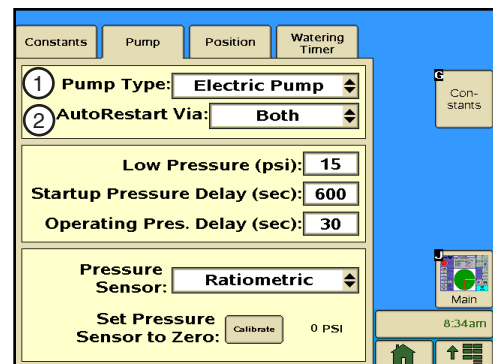

Figure 26-1 1. Pump Type Field
1. Push **Setup, Constants, Pump** to display the Pump settings. Refer to Figure 26-1.
Use the Auto Restart Via option to restart a machine automatically if it was last shut down because of a loss of power or pressure. Refer to Figure 26-1.